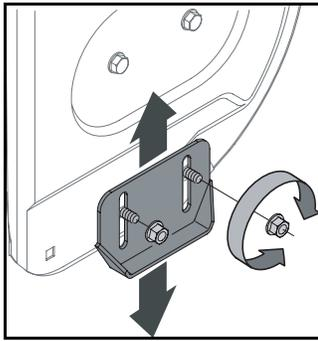

Figure 16
- Remove the carriage bolts and flange lock nuts which attach the two skid shoes to the snow thrower on two sides. See Figure 16.